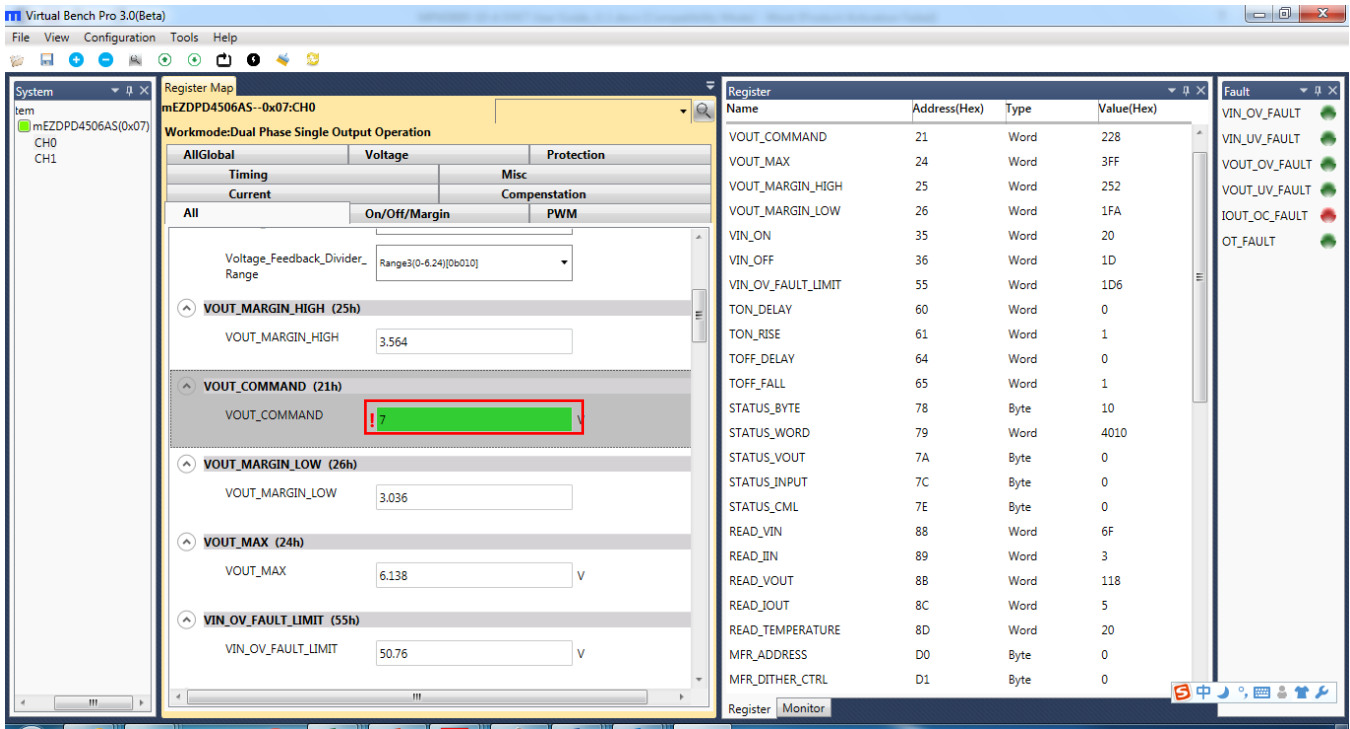

Figure 8: Enter Desired Values in the Register
3. Change the register value as desired. A valid input must be entered. Otherwise, an alert will appear, and the entered value will not be accepted (see Figure 8).